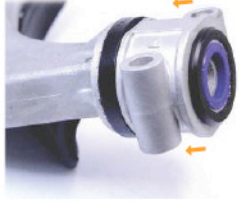

Figure 3
5. Apply some of the supplied grease in the bore of polyurethane part B and fit the bush and bracket assembly onto the sleeve, as shown in Figure 3.